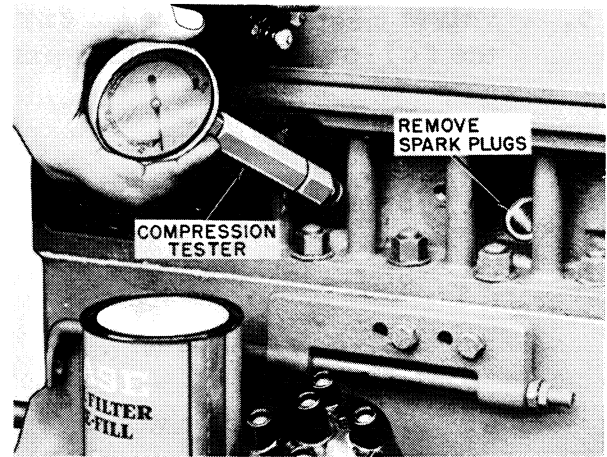

Figure 13 - Testing Compression
3. Install compression gauge into front spark plug port. Crank engine four revolutions and read gauge. Repeat this operation on the three remaining cylinders. Figure 13.